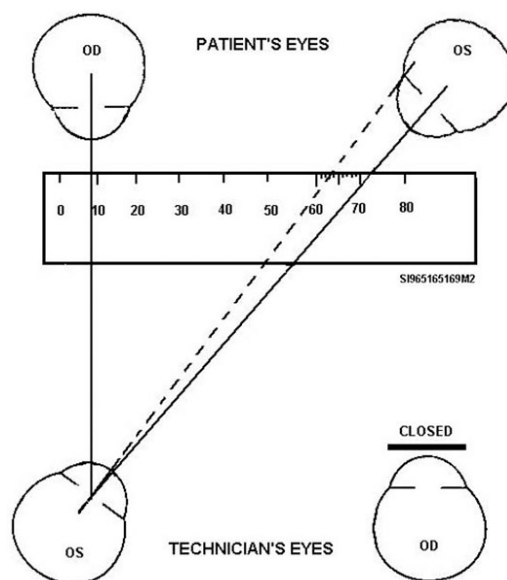

Figure 2-68. Taking the near PD reading from the patient's left nasal limbus (using your left eye).
4. You want to get the *near PD* measurement. With the patient still looking at your left eye, and without moving the ruler or opening your right eye, look across the patient's face to his or her left eye and observe where the left nasal limbus is lining up on the PD ruler (fig. 2-68), and in this example, the reading happens to be 63. Whatever reading you get, just keep it in your head for now. You're not done yet. You've only gotten the near PD so far. Again, **DO NOT MOVE THE RULER**.